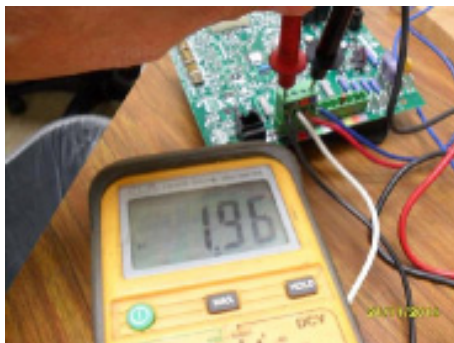

Figure 1
1. DC voltage from C to data 1 should read approximately 1.9vdc or 2.8vdc for some furnaces. (Figure 1)